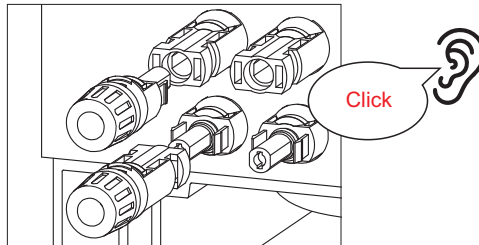

Figure 4.12
7. Connect the wired DC terminal to the inverter as shown in the Figure 4.12, and a slight "click" is heard to prove the connection is correct.